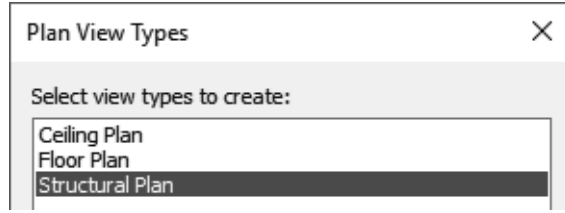

Figure 1–44
7. Add three more levels above **TOS-Floor 1** with a distance of **15'-0"** between each level, and one level below **Ground Floor** with a distance of **15'-0"** between them. Rename them as shown in Figure 1–45. Click **Yes** to rename the corresponding views.